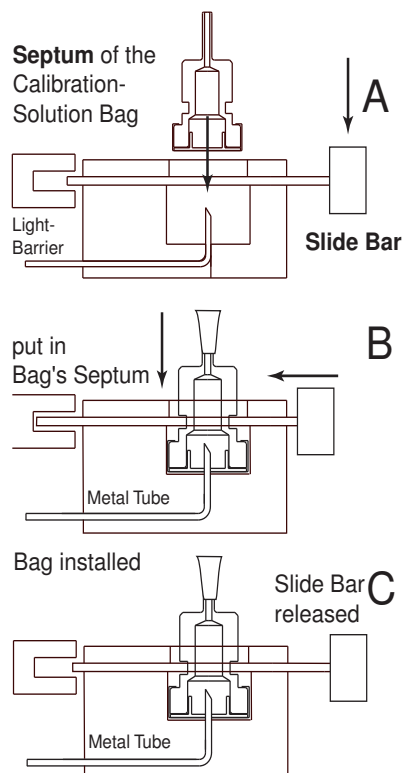

Figure 15 Installation of Calibration Solution Bags
- Press the **Slide Bar BGA 1/3** on the Bag Adapter (**A**) to open the access to the corresponding metal canula (s. figure 15).
- Press the **Septum (B)** of the Bag BGA 1/3 against a small resistant over the metal canula.
- Release the **Slide Bar BGA 1/3 (C)**. The Septum is now fixed by the Slide Bar. A light barrier announces the placement to the software so that the Calibration Solution will be sucked in automatically.